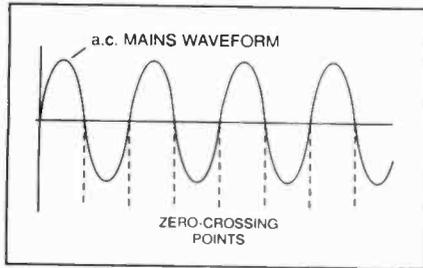

Fig.2. Zero crossing points on the a.c. mains waveform.
a.c. mains cycle passes through zero (see Fig.2).